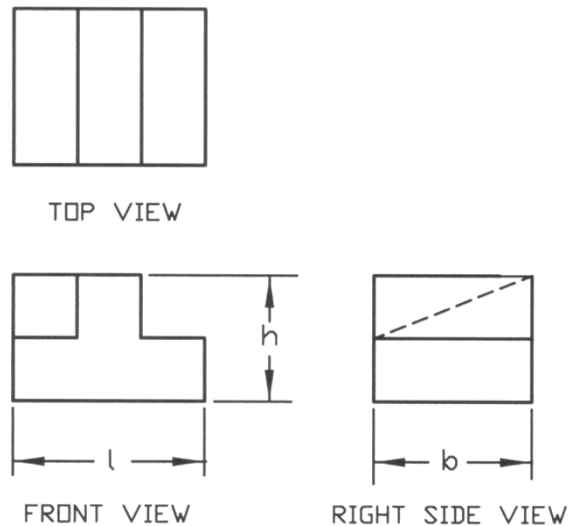
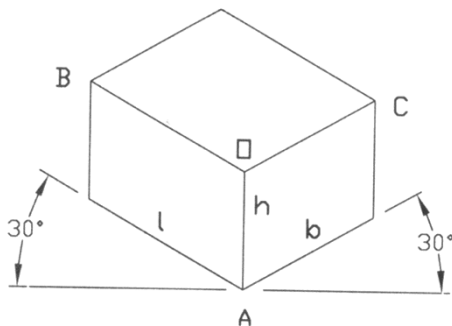

Figure 6.11: Orthogonal Projection
Figure 6.12: Isometric Parallelepiped Side
A simplified procedure is provided below to draw an isometric view from the orthographic projection. In Figure 6.11, the orthographic projection of an object is given from where an isometric view will be drawn. The steps mentioned below are to be followed to make the isometric view.
- (1) An isometric parallelepiped is drawn (Figure 6.12) in such a way that the length ( $l$ ), breadth ( $b$ ) and height ( $h$ ) of the parallelepiped are respectively equal to those of the orthographic projection (Figure 6.11). The lines will be very thin so that they can be erased easily when required.